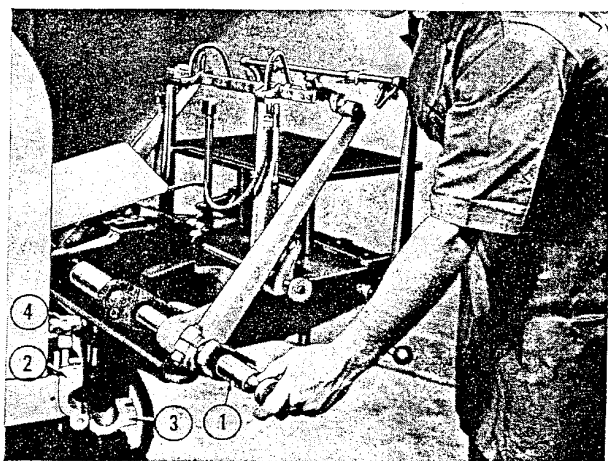

Figure 17—Locking Feeder
(7) HOW TO LOCK FEEDER. (See figure 17.)—To lock feeder, swing feeder until feeder shaft (1) is engaged in fixed half of feeder shaft bracket (2). Swing hinged half of bracket (3) in place and securely tighten bracket lock wheel (4).